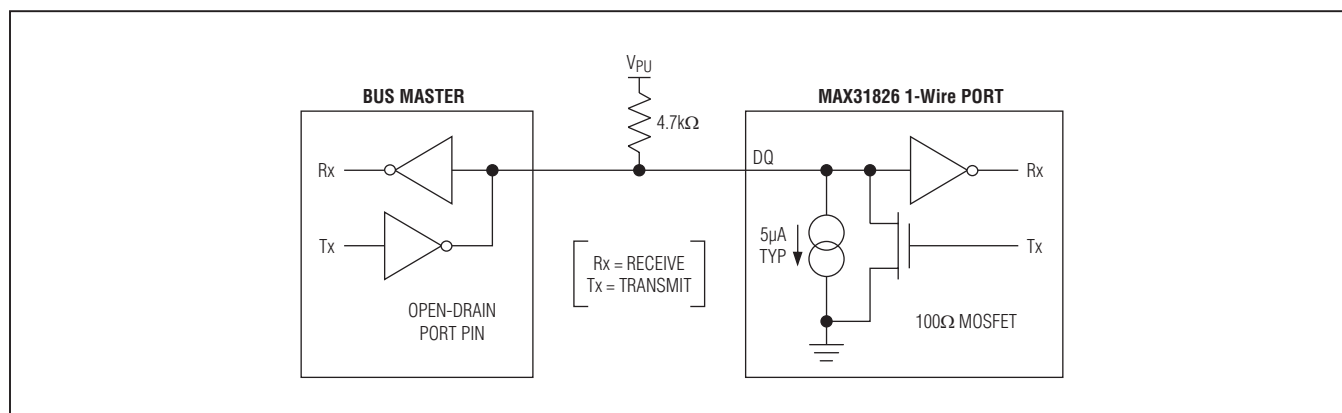

Figure 6. Hardware Configuration
The 1-Wire bus has by definition only a single data line. Each device (master or slave) interfaces to the data line by using an open-drain or three-state port. This allows each device to "release" the data line when the device is not transmitting data so the bus is available for use by another device. The device's 1-Wire port (DQ) is open drain with an internal circuit equivalent to that shown in Figure 6.